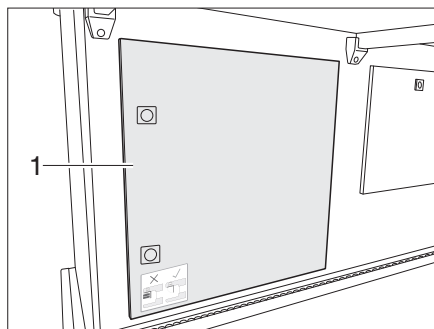

Fig. 65 Access flap for the gas bottles
- ▶ Never block the access flap (Fig. 65, 1) for the gas bottles. Observe the advice sign.
- Open (Fig. 65,1) flap for the gas bottle compartment.